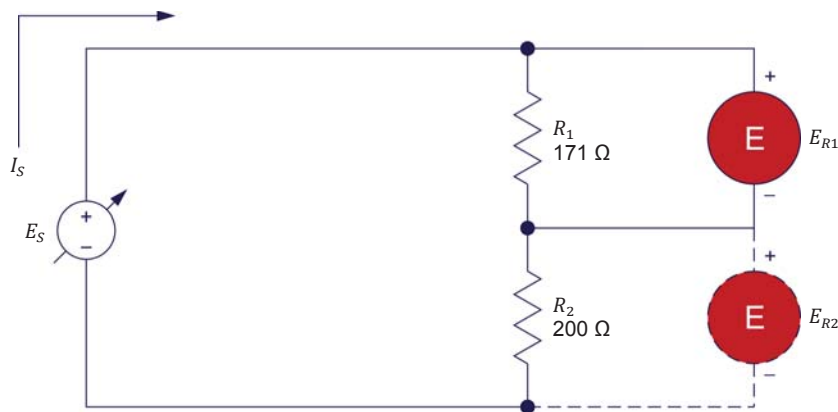

Figure 26. Measuring power in a circuit with resistors in series.
12. Set up the circuit shown in Figure 26. To obtain the resistor arrangement of Figure 26, make the necessary connection(s) and switch settings on the **Resistive Load** module.
The voltage across resistor R_2 will be measured separately in another step. For this reason, the voltmeter symbol is dashed for E_{R2} in Figure 26.
15. Disconnect the voltmeter from resistor R_1 and connect it across resistor R_2 , as shown in Figure 26.